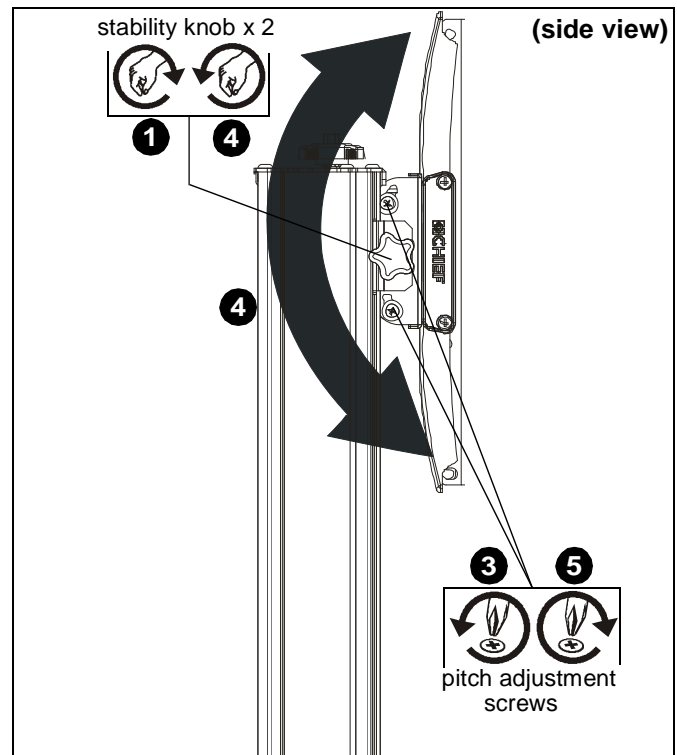

Figure 22
5. Loosen two stability knobs on either side of head assembly. (See Figure 22)
6. Loosen pitch adjustment screws to allow pitch to be adjusted. (See Figure 22)
7. Adjust pitch as desired. (See Figure 22)
8. Tighten pitch adjustment screws to lock pitch position. (See Figure 22)
9. Tighten two stability knobs on either side of head assembly. (See Figure 22)